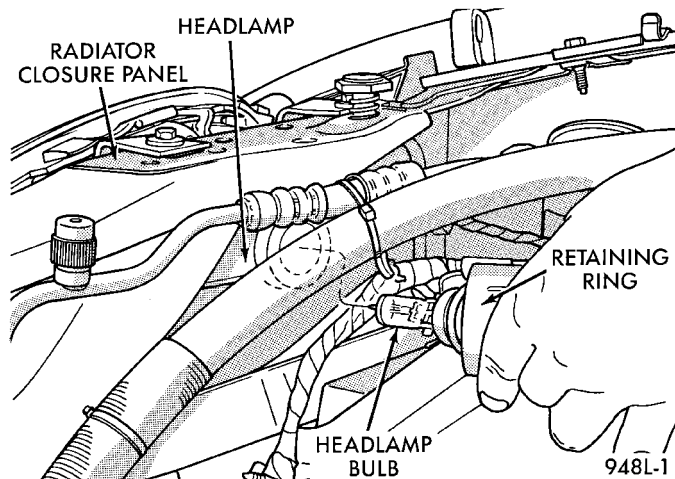

Fig. 1 Headlamp Bulb
- (1) Release hood latch and open hood.
- (2) Disengage wire connector from headlamp bulb connector.
- (3) Remove retaining ring holding bulb to back of headlamp module.
- (4) Pull bulb from back of headlamp module (Fig. 1).